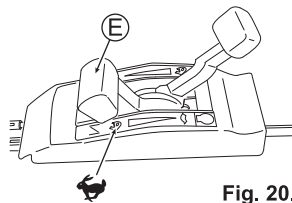

Fig. 20.
2 Set Throttle lever (E) to " " to start mowing. (See Fig. 20.)